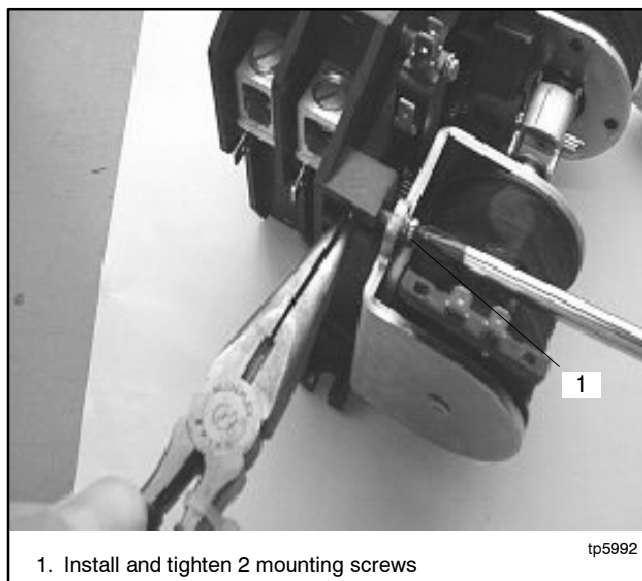

Figure 6-8 Installing the Coil Assembly, Typical
3. Install and tighten the two mounting screws. Use pliers to hold the nuts while inserting and tightening the screws. See Figure 6-8.